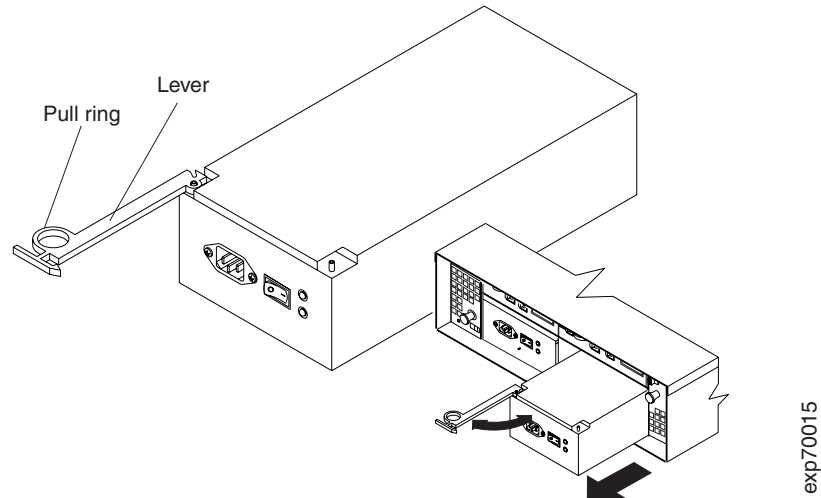

Figure 10. Removing a power supply CRU
2. Pull the lever open and remove the power supply as shown in Figure 10.